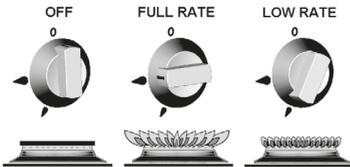

Fig. 1
3. To light: Push in the control knob and turn to full rate – see Fig.1. Hold a lighted match or taper to the burner and push the control
2. To light: Open door, push in the control knob and turn to full rate – see Fig 1 (page 172). Hold a lighted match or taper to the burner and push the control knob in and hold. The burner should ignite and the control knob should be held in for 10 -15 seconds before release.